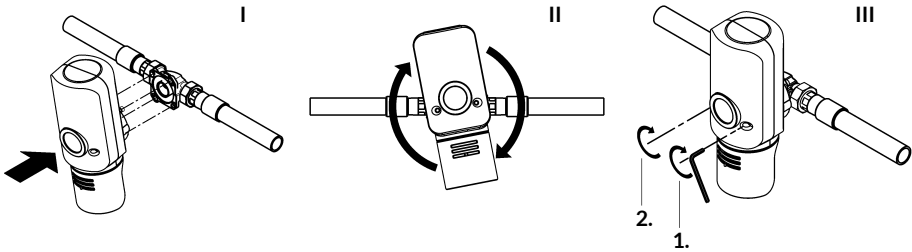

Fig. 6: Installing the cartridge filter
- / Insert the four flange screw heads through the bayonet drill holes on the built-in rotary flange (see fig. 6 I).
- / Turn the cartridge filter in a clockwise direction as far as it will go (see fig. 6 II).
- / Tighten the two screws in the front alternately with an Allen key (see fig. 6 III).